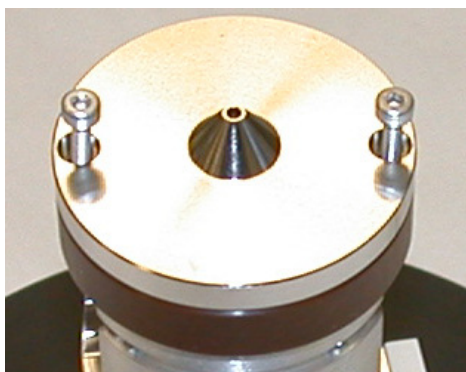

Figure 75 Lens 2
- d** Use the 1.5-mm ball driver to remove the two screws that hold **lens 2** (Figure 75).